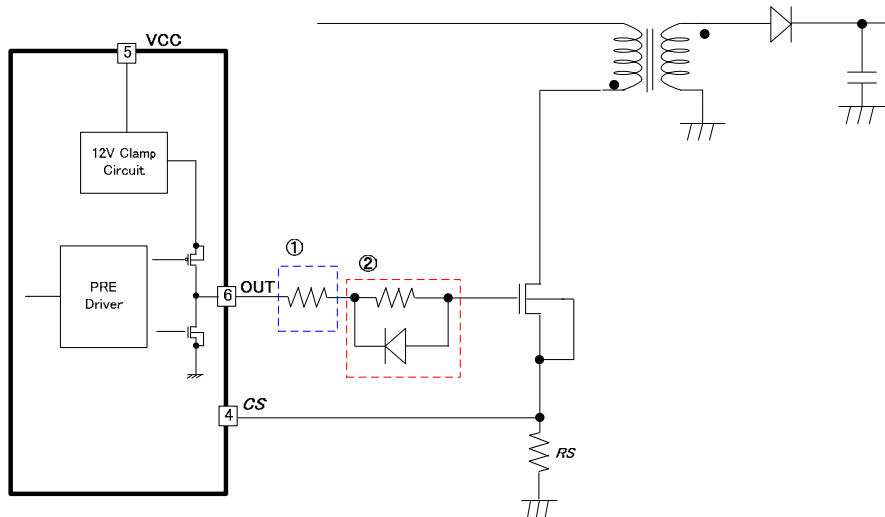

Figure 26. OUT Pin (Pin 5) Driver Circuit
Switching noise that occurs when OUT is turned on or off may cause EMI-related problems. In such cases, the MOSFET turn-on time and turn-off time must be delayed. However, when the turn off time is delayed, switching loss increases. Figure 26 shows a delay circuit for the OUT pin. In Figure 26, ① is valid during both turn-on and turn-off operations. ② shows a delay in the turn-on only, while turn-off is accelerated.
(9) Caution points for board layout pattern